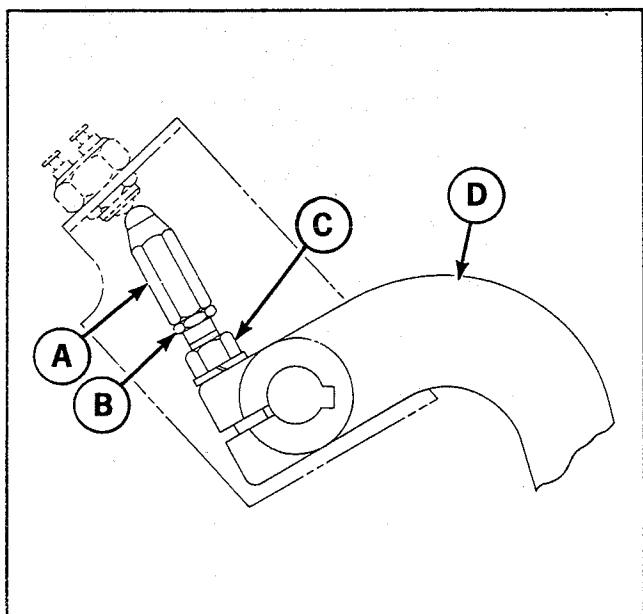

Figure 14. Neutral start safety switch.
3. See figure 14. Turn detent (A) until switch closes, then advance detent 1/4 to 1/2 turn more.
4. Tighten the detent lock nut (B) against detent. Insure that stud cap screw (C) is secure against speed control lever (D).